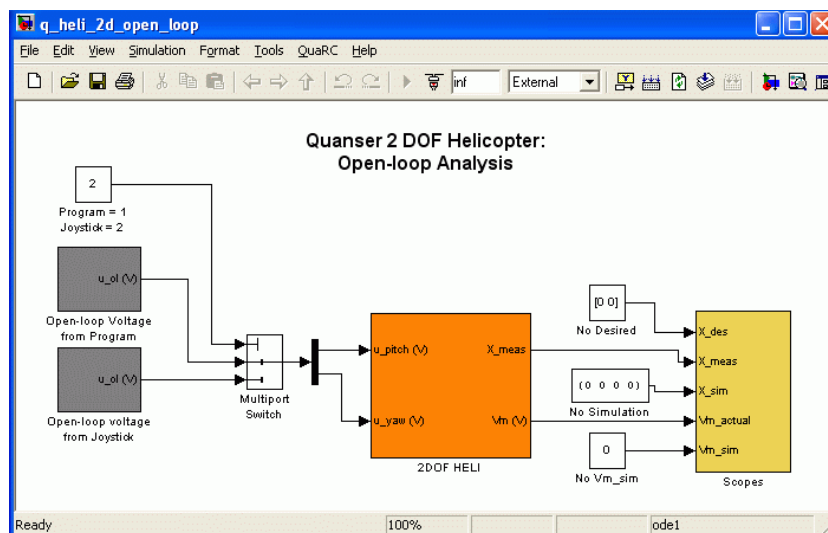

Figure 5.15: Simulink diagram to run 2-DOF Helicopter in open-loop with QUARC
8. Open the θ (deg), ψ (deg), and V_m (V) scopes in the *Scopes* folder. These scopes display both the desired and measured angles of the Helicopter as well as the voltages being applied to the front and back motors.
11. In the *q_heli_2d_open_loop* Simulink diagram, make sure the *Program/Joystick* block shown in Figure 5.15 is set to 2 in order to generate the desired voltage from the joystick.